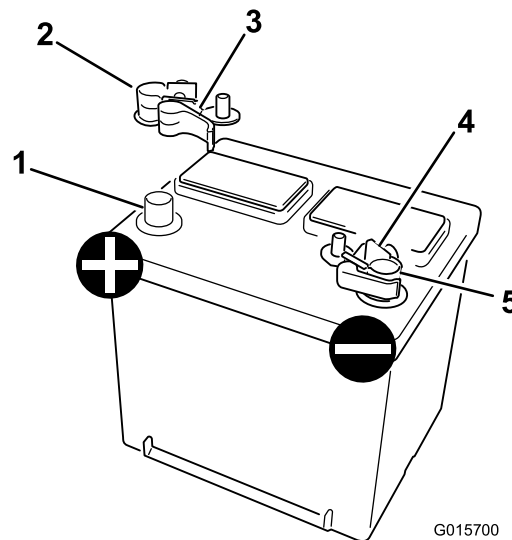

Figure 4
- Install the quick attach connectors to the battery terminals with the clamp arms facing outward (Figure 4). Install the unaltered connector to the positive battery post. Install the altered connector to the negative battery post.